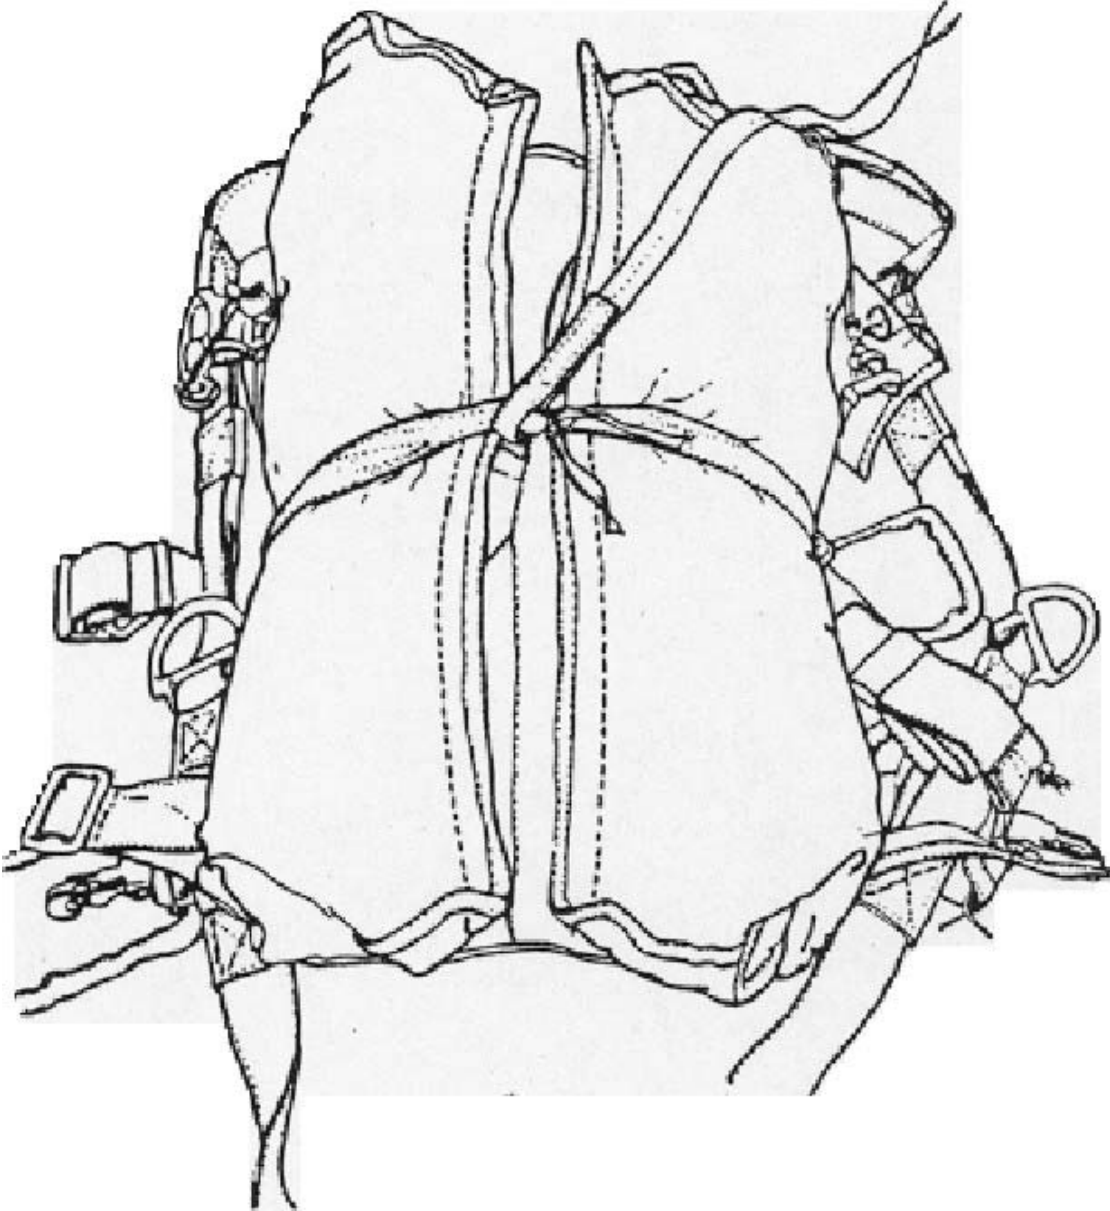

Figure 3-6
10. Close the pack tray. (See Figure 3-6)